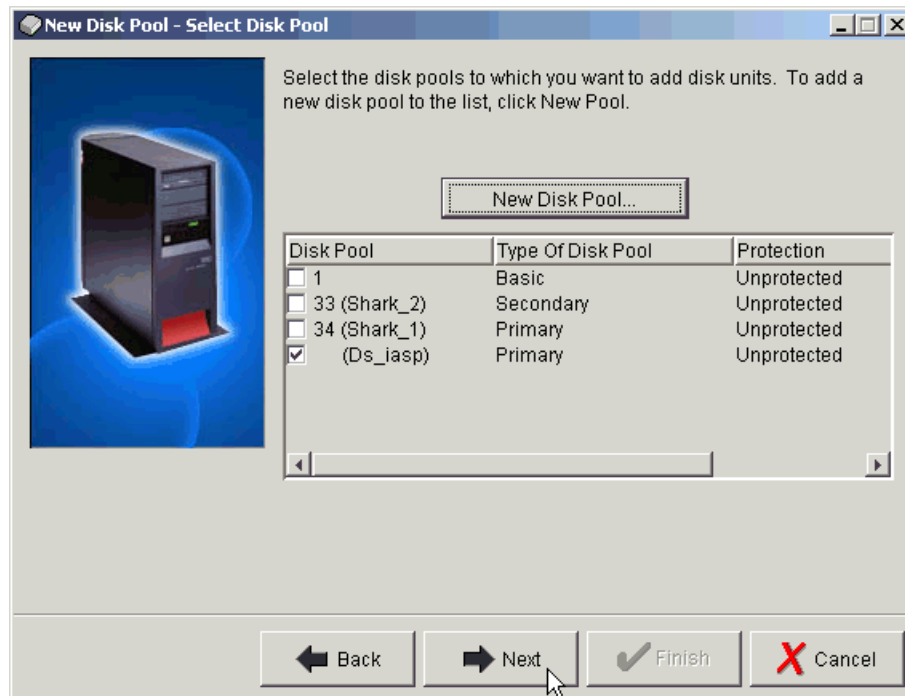

Figure B-13 Confirm disk pool configuration
- A confirmation panel like that shown in Figure B-13 will appear to summarize the disk pool configuration. Select **Next** to continue.